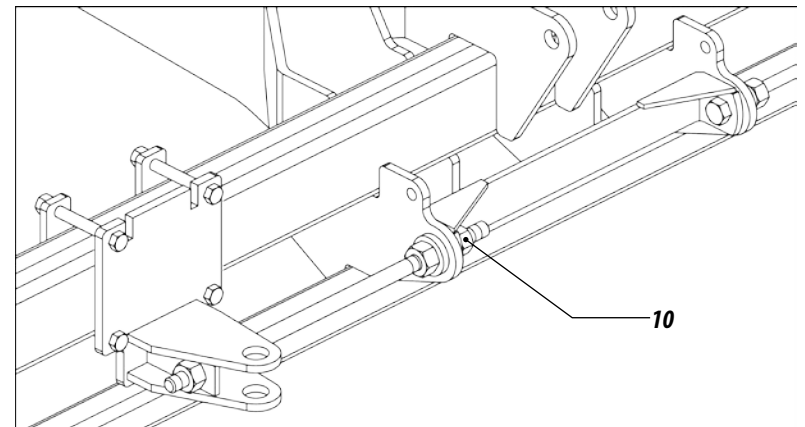

Figure 11
25 - After inserting the stabilizer bar, adjust the rod into the position of alignment and lock with the counterweights (10) figure 11.